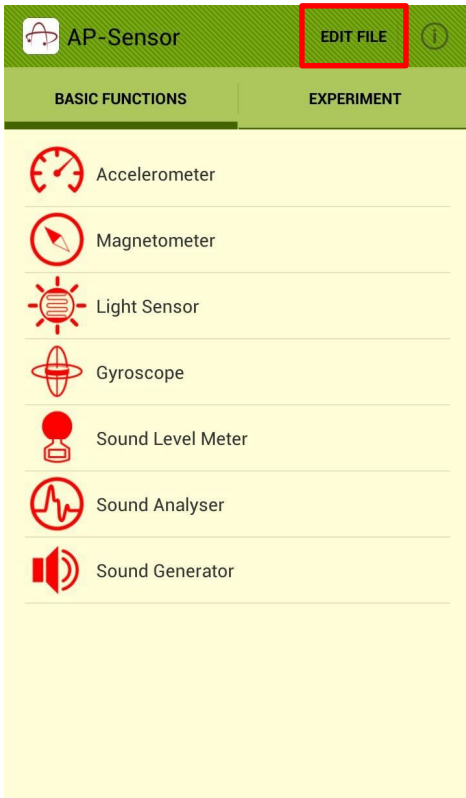

Fig 3.6
1. Press the “Edit File” button on the top of the main menu (Fig 3.6).